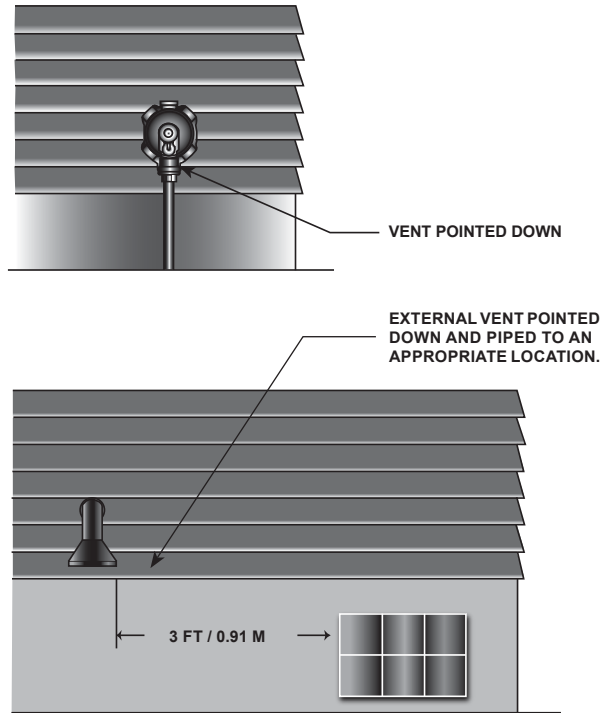

Figure 5. Typical Outdoor Installations with Regulator Vent and External Vent Pointing Downward
- Install the regulator with the vent pointed vertically down, see Figure 5. If the vent cannot be installed in a vertically down position, the regulator must be
- Install the regulator so that any gas discharge through the vent or vent assembly is over 3 ft / 0.91 m horizontally from any building opening below the level of discharge. See Figure 5.